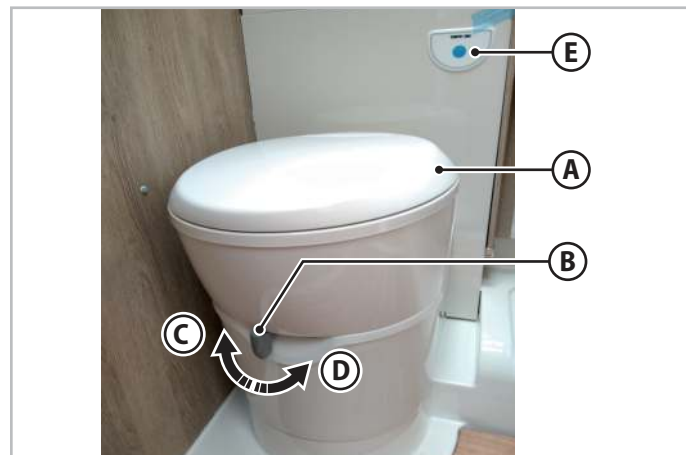

Fig.6.37 - Flushing the toilet
The upper part of the toilet (**A** - Fig.6.37) can be rotated right or left for optimal use of the space.
1. Move the lever (**B** - Fig.6.37) to position (**C** - Fig.6.37) to open the flush hatch.
2. Press and hold the flush button (**E** - Fig.6.37) for as long as needed.
3. Move the lever to position (**D** - Fig.6.37) to close the flush hatch.
1. Check that the toilet drain hatch is closed: the lever (**B** - Fig.6.37) must be in position (**D** - Fig.6.37).